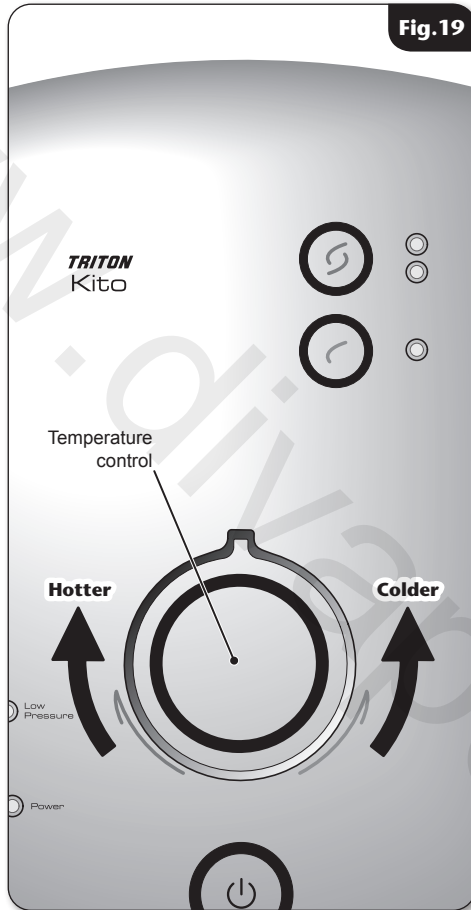

Fig.19
- The water temperature is altered by increasing or decreasing the flow rate of the water through the shower via the temperature control (**fig.19**).